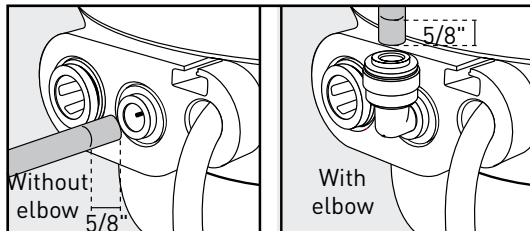

Figure 19
2. If desired, use the 1/4-inch elbow included with the installation kit. This elbow can be pressed in for installations in situations where room is not available to bend the tubing. This elbow fitting can also be swiveled. Locate the 1/4-inch fitting with the blue quick-connect collar on the left hand side of the RO system. Align the blue tubing from the faucet with the quick-connect fitting on the RO system. Place a mark on the blue tubing 5/8-inch from the end. Moisten the end of the tubing with water and insert until the mark is flush with the quick-connect opening (Figure 19). If tubing is not firmly connected, leaking will occur. It is important for the tubing to be inserted all the way until the mark is flush with the outer edge of the quick-connect insert.